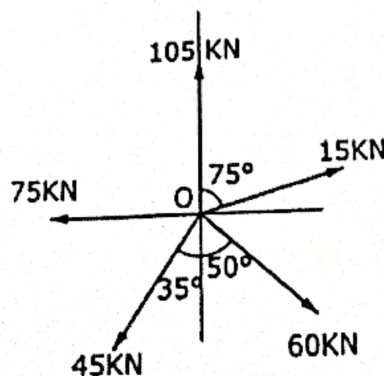

Fig.11(b)
- B. Five forces acting on a particle is shown in fig. 11(b). Locate the resultant (10)